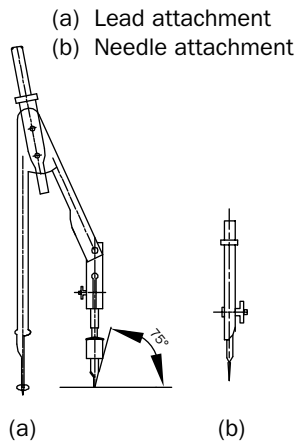
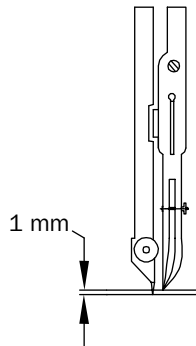
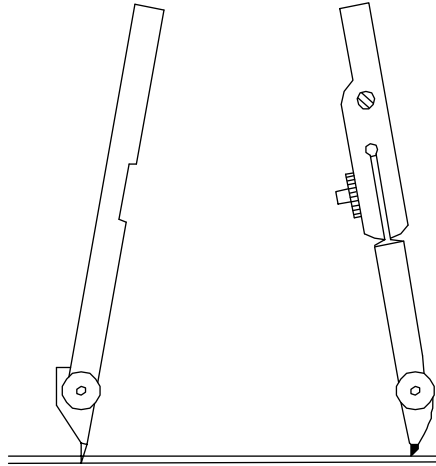

Fig. 1.3 Large size compass with different attachments
Fig. 1.4 Relative position of compass point
Fig. 1.5 Sharpening of compass lead
- Large Size Compass:** It is used for drawing circles and arcs up to 200 mm. It consists of two legs hinged at one end; one leg is so arranged that it can receive either a lead* or a pen, as shown in Fig. 1.3. The needle point should be at least 1 mm larger than the lead or pen point. This is because, when the compass is used the needle point penetrates into the paper and thus the pen or lead touches it at same level (Fig. 1.4). The hardness of the lead used should be the same as that of the pencil work of the drawing. The lead end may be sharpened as shown in Fig. 1.5.